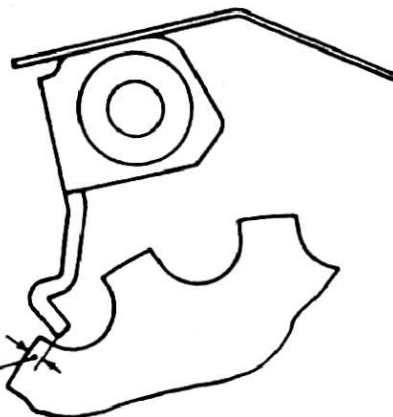

FIG. 14
- .3 On the release of the finger plate, after the dialling of any digit the tip of the trigger should engage the impulse wheel by a minimum of 20 mils, as near as can be judged by eye (see Fig 14).